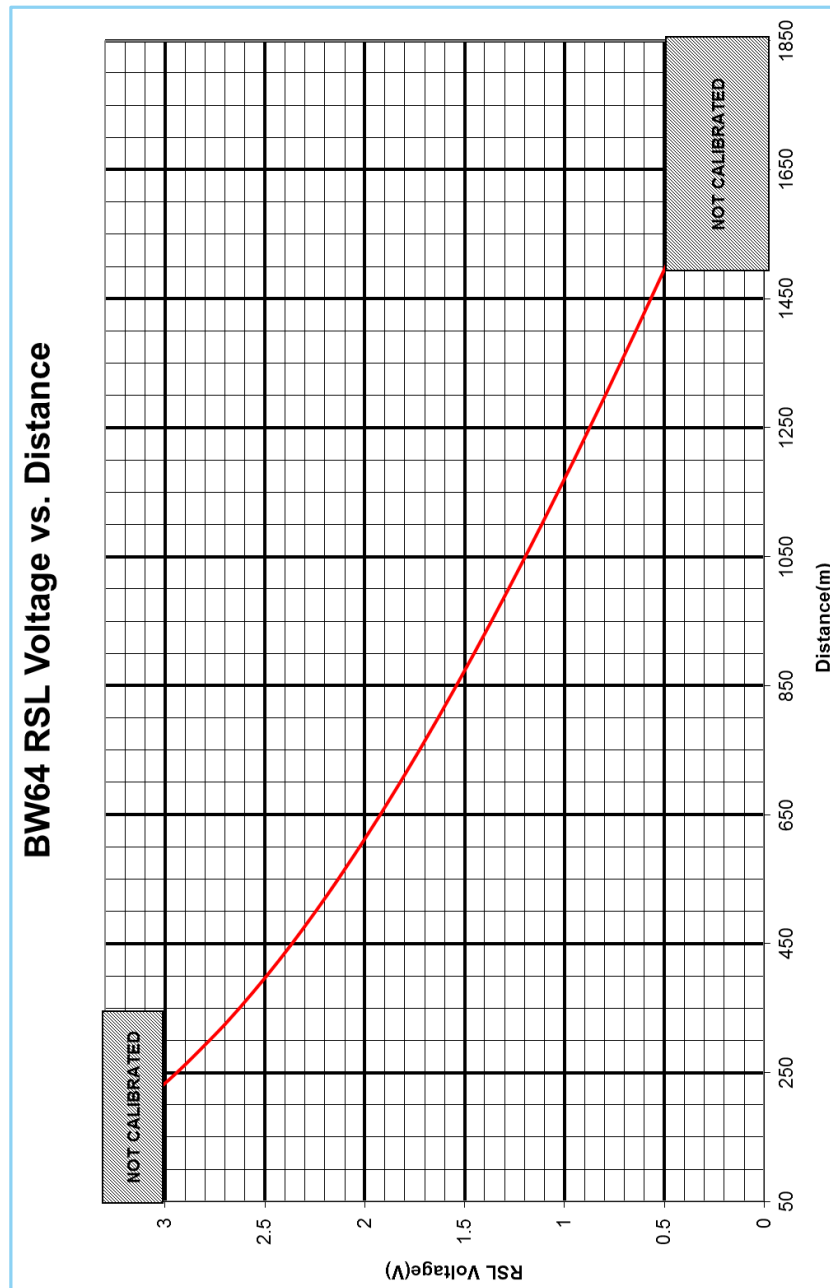

Figure 3-6 RSL Voltage vs. Distance
1. Confirm your target Received Signal Level (RSL) voltage from the chart in the RSL Voltage vs. Distance graph in Figure 3-6 RSL Voltage vs. Distance of Appendix B, or by using the BridgeWave Availability Calculator.